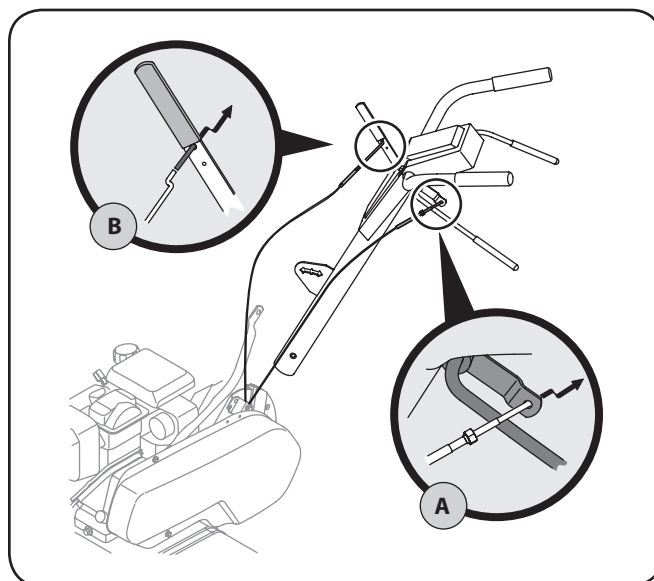

Figure 3-2
2. Hook the "Z" end of the forward clutch cable (A) into the forward tine engagement lever. See Figure 3-2.
3. Hook the "Z" end of the reverse clutch cable (B) into the reverse tine engagement lever. See Figure 3-2.